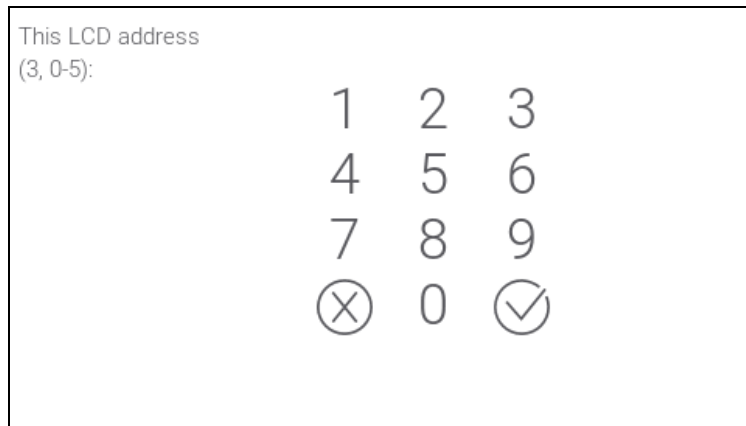

Fig. 17. Address setting.
1. Tap    . The “0.Keypads addr.” function will start. All wired keypads will display the message: “This LCD address (n, 0-5)” [n – keypad address; 0-5 – range of supported addresses] (Fig. 17).